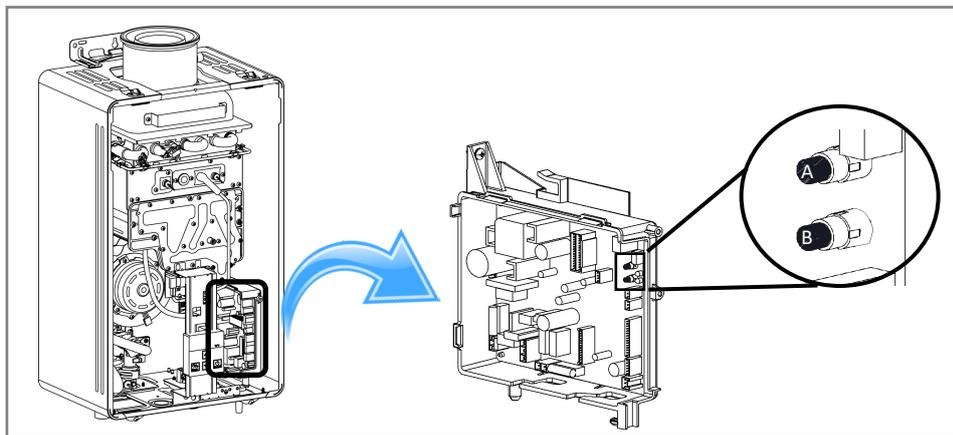

Figure 13. Push Buttons “A” and “B” on the PC Board
1. Locate the PC board (lower right side of unit) (Figure 13).
2. Locate the two push buttons (“A” and “B”) on the PC board (Figure 13). Apply power.